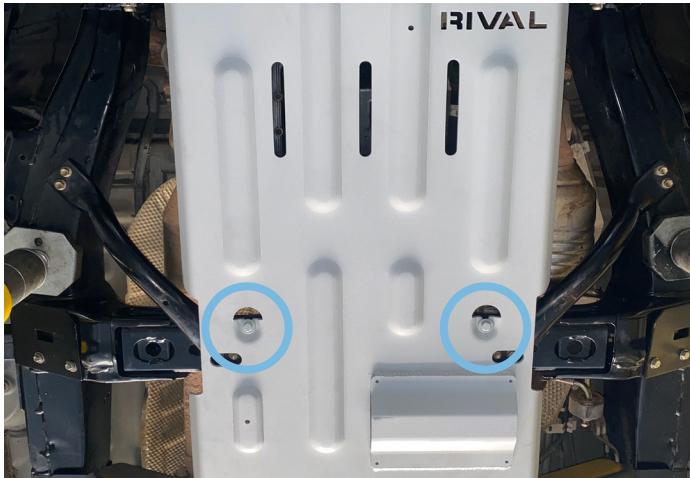

Fig.9
9. Slide the center holes of the skid plate over previously installed M8x30 Bolts & M8 washers as shown in Fig.9.